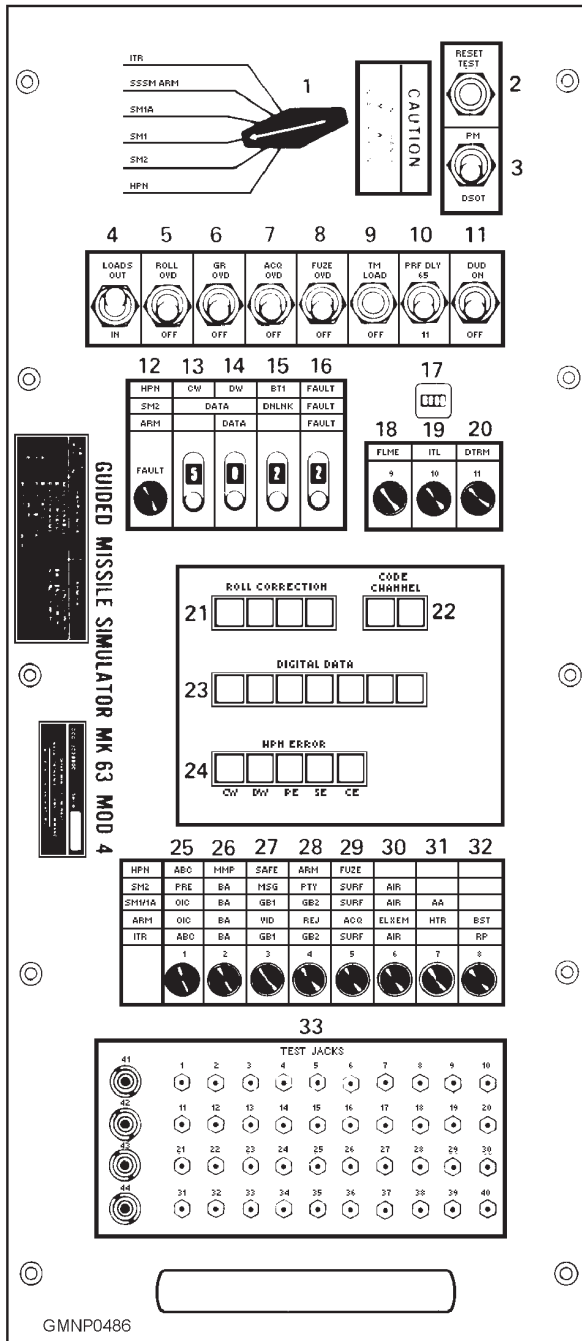

Figure 10-22.—Mk 63 Mod 5, 6 front panel of the guided missile simulator.
The Mk 63 Mod 5, 6 GMS is a very versatile electronic unit. Figure 10-22 shows the front panel of the simulator. The GMS furnishes the electrical loads, voltages, frequencies, and responses for any of the six missile types mentioned earlier. A round identification switch (item 1 in the figure) selects the correct circuits for simulation of the desired missile type. Lamps, switches, displays, and test jacks on the front panel facilitate DSOT and other system testing.